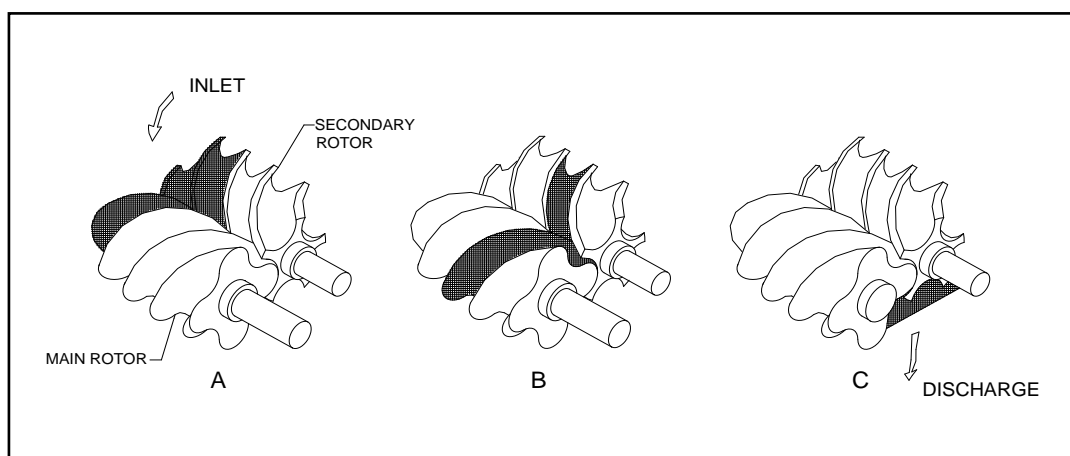

Figure 3-2
In operation, as depicted below in the compression cycle (Ref. Figure 3-2), air enters the compressor through the inlet port becomes trapped between the helical lobes of the main rotor and the matching grooves of the secondary rotor (A). As the rotors turn air is trapped in the cavity created by the mashing lobe and groove and reduced in volume or “compressed”. It is then pushed through the successive cavities (B) until it reaches the discharge end of the compressor (C) and is sent to the oil separator.